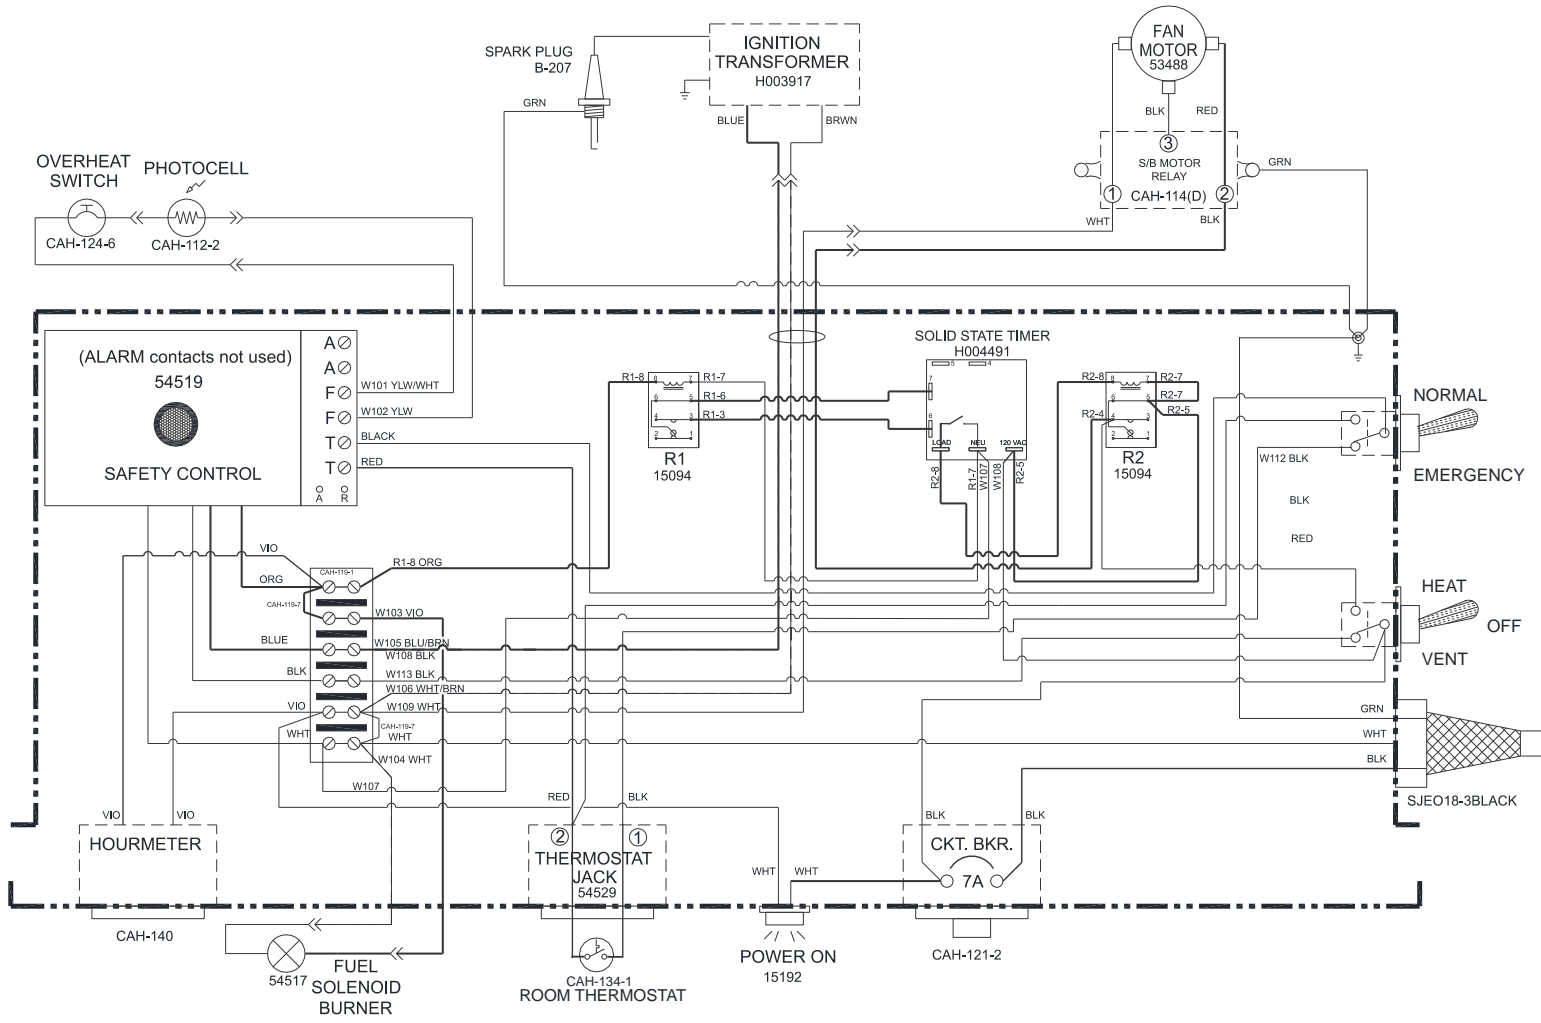

Figure 4-2. Wiring Diagram
MORE INFO: This heater has a ¼ horsepower motor with a separate starting relay. All electric motors have internal coils of wire or “windings” that make them run. This motor has two windings. One winding is a low speed high torque winding or “start winding” and the other is a high speed low torque “run” winding. The job of the starting relay is to connect the start winding momentarily then switch to the run winding. See the wiring diagram, Figure 4-2. In the event the starting relay is defective you will
7. Take the black motor wire off its terminal (3) of the starting relay. Attach the jumper to the terminal (2) of the red lead and plug in the heater. The motor should start. Remove the jumper from terminal (2) immediately. The motor should continue to run.
8. If the motor starts and continues to run install a new relay. Disconnect the power cord and re-connect the wiring according to the wiring diagram. See Figure 4-2.